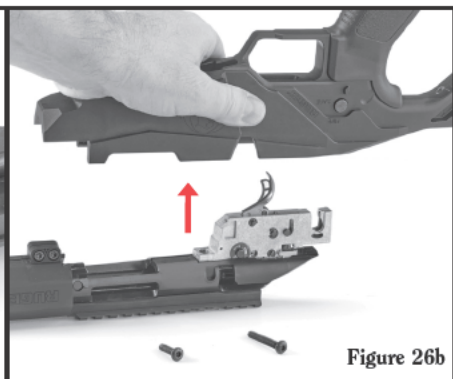

Figure 26b
- d. Lift the barreled-action out of the stock. (See Figure 26b.) If the safety selector switch drops out of the stock, refer to “Reversing the Safety Selector Switch,” p. 32, for instructions on how to reinstall it.